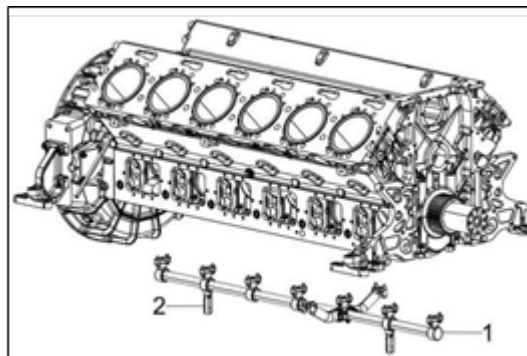

Figure 106.
8. Remove the oil pipeline group (Figure 106, item 1) and disassemble the oil pressure limiting valve (Figure 106, item 2) if necessary.